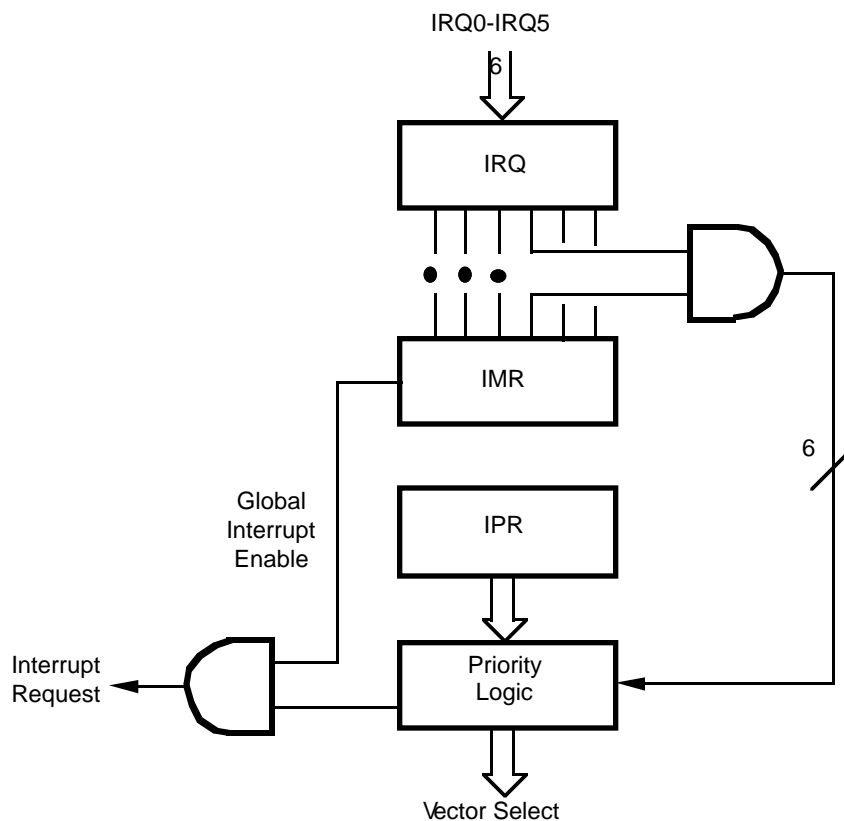

Figure 13. Interrupt Block Diagram
**Interrupts.** The Z08615 has six different interrupts from six different sources. These interrupts are maskable and prioritized (Figure 13). The six sources are divided as follows: four sources are claimed by Port 3 lines P33-P30, and two are claimed by the counter/timers. The Interrupt Masked Register globally or individually enables or disables the six interrupts requests.